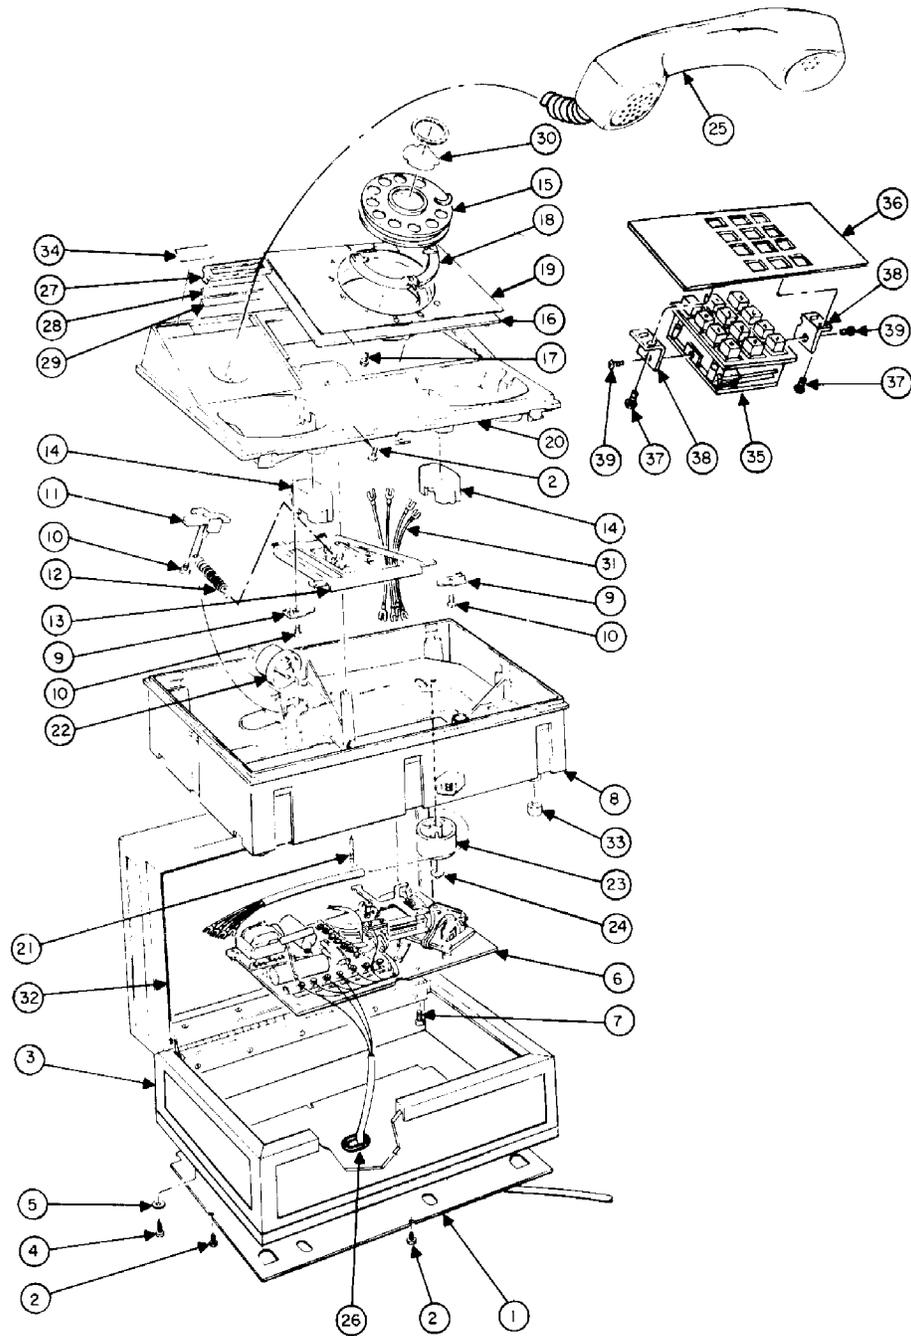

Figure 4. Chestphone.
5.10 If the Chestphone is equipped with a dial, assemble the dial assembly as follows (see Figure 4):
- (a) Attach a number insert (19) to the dial support plate (16).
- (b) Place the dial spacer (18) and dial (15) into the dial support plate (16), and secure with three screws (2).
- (c) Insert the dial support plate (16) into the base cover (20) and secure with three screws (2).